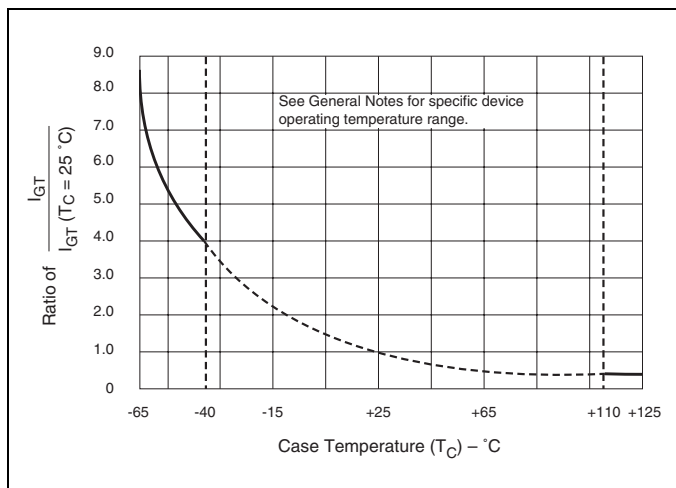

Figure E5.10 Normalized DC Gate-Trigger Current versus Case Temperature
- (2) See Figure E5.10 for  $I_{GT}$  versus  $T_C$  or  $T_L$ .